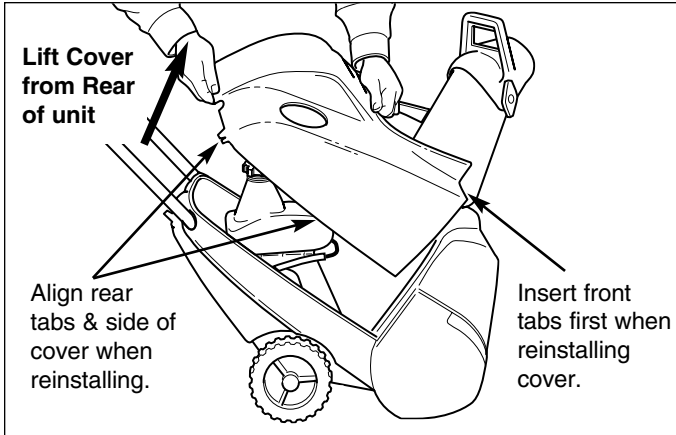

Figure 13. Cover Removal & Installation
4. Remove the cover (see Figure 13 on page 14).